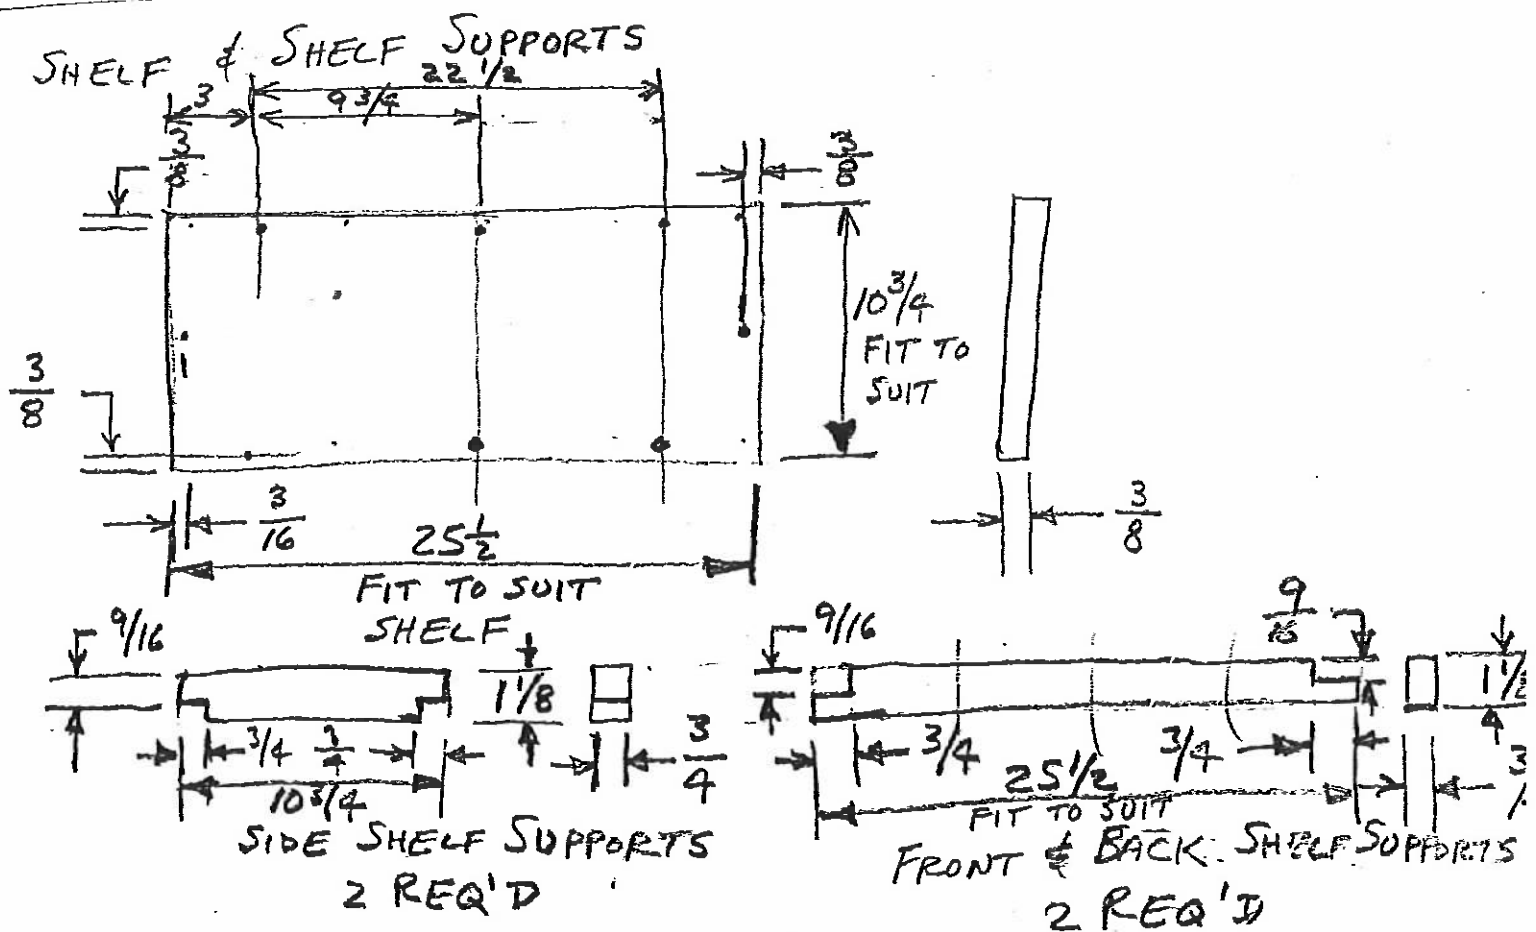

FIGURE 7 Shelf & Shelf Supports
- FIG. 7 SHELF & SHELF SUPPORT